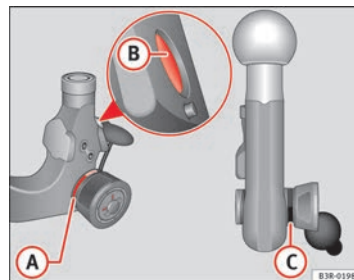

Fig. 154 Removable
- Check that the red marking **(A)** ⇒ page 202, fig. 154 on the knob is inside the black zone marked on the ball joint.